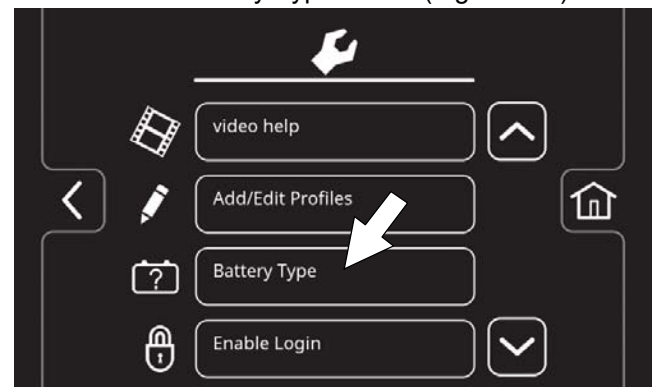

FIG. 126
- Press the Battery Type button (Figure 126).